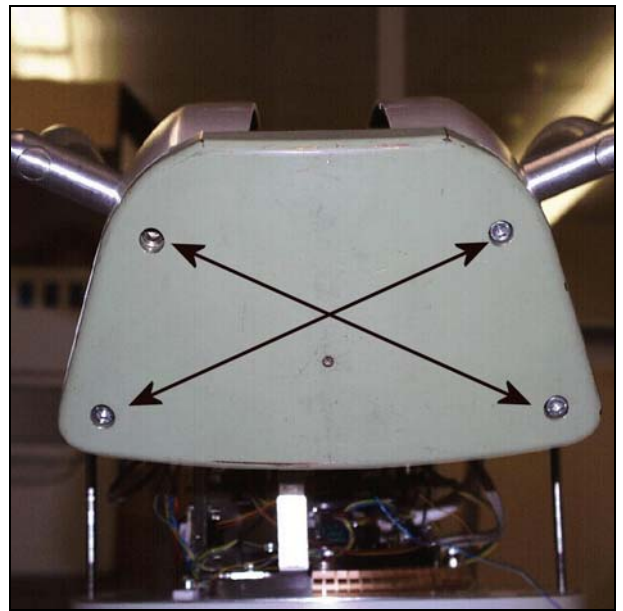

Fig. 2
- Remove the front C-arm cover from the X-ray image intensifier side of the C-arm (Fig. 2).